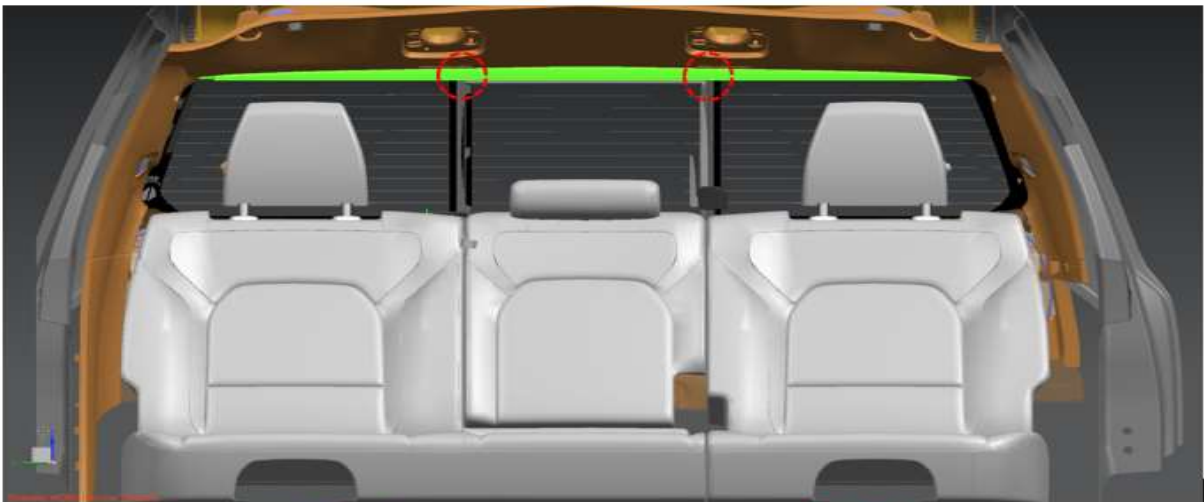

Figure 1 - Inside Truck Cab, Light Green Part is Upper Plastic Frame of Backlite, Red Circles are Potential Crack Locations
- Discussion:** Inspect backlite (rear window) upper plastic frame for cracks. If part shows visible marking near red circles in Figure 1, run fingernail across suspect area.